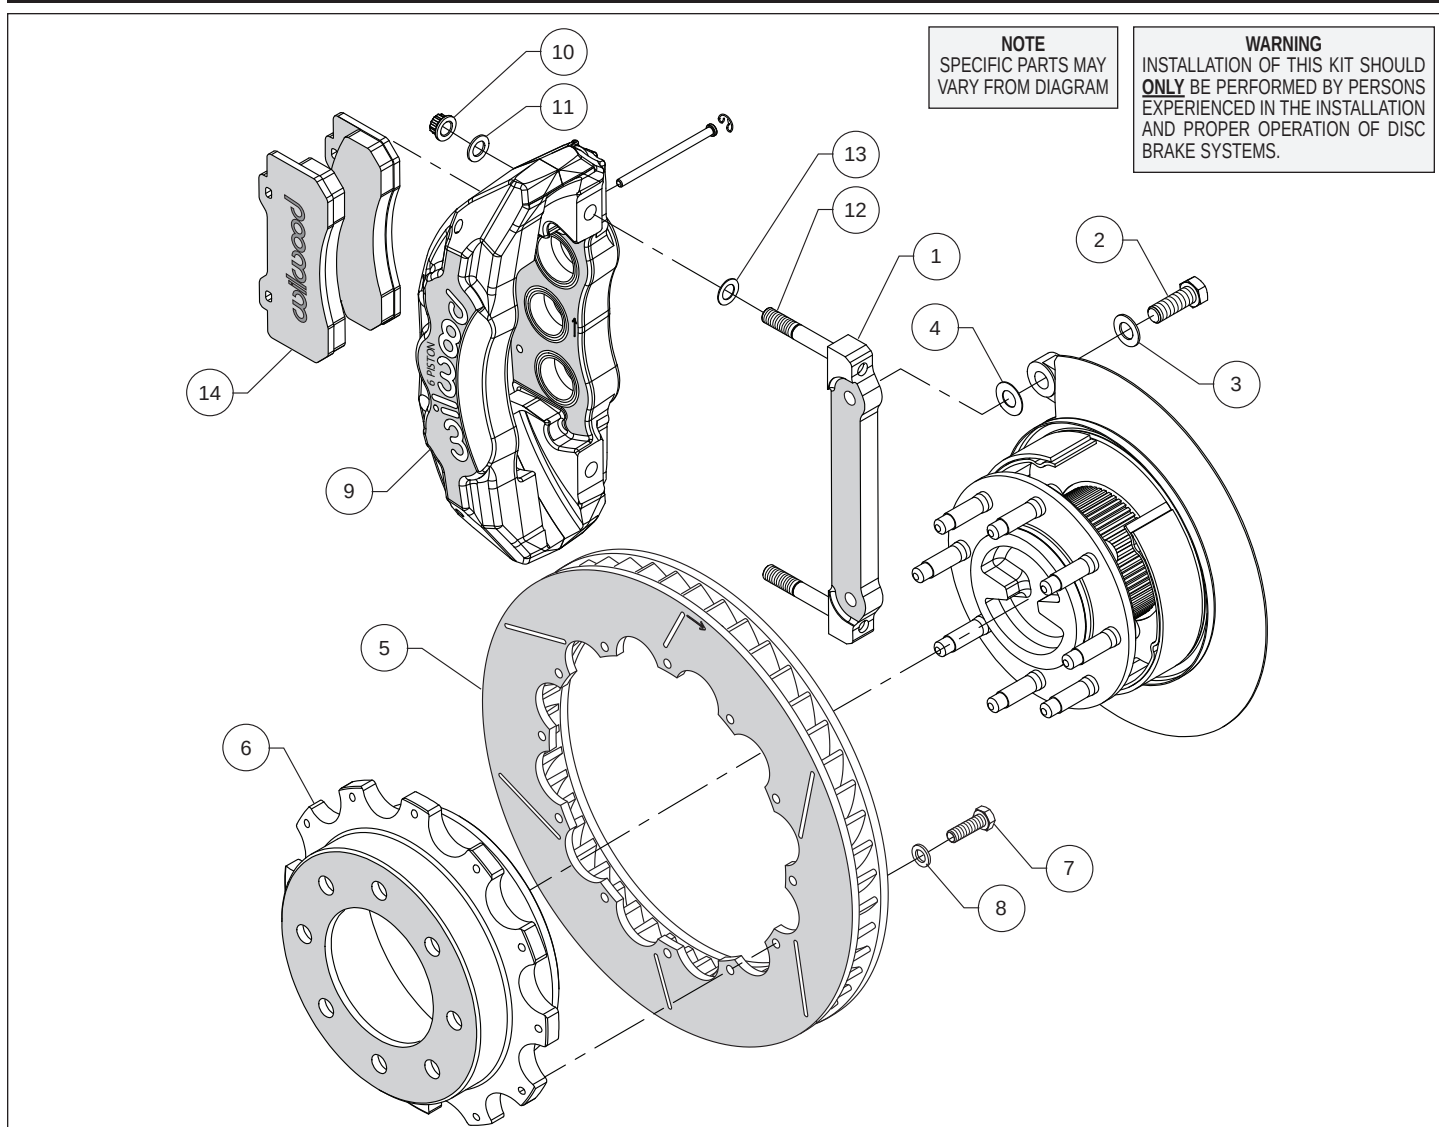
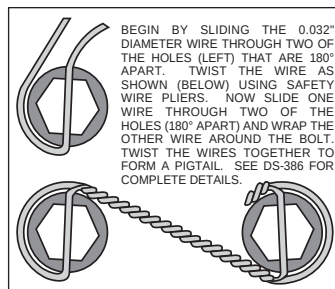

Figure 1. Typical Installation Configuration
Figure 3. Safety Wire Diagram
Assembly Instructions (numbers in parenthesis refer to the parts list and Figure 1 on the preceding pages):
- The caliper mount bracket (1) should initially be installed with clean, dry threads on the mounting bolts. Orient the bracket as shown in Figure 1 and Photo 1, and install using bolts (2) and washers (3). Initially place one .029 thick shim (4) on each bolt between the bracket and upright, Figure 1. Temporarily tighten the mounting bolts. **NOTE:** *The bracket must fit squarely against the mount bosses on the upright.* Inspect for interference from casting irregularities, machining ridges, burrs, etc. Later, after the caliper alignment has been checked, the mount bolts will be secured using red *Loctite*® 271.
- Orient the rotor (5) and the hat (6) as shown in Figure 1 and Photo 2. Attach rotor to hat using bolts (7) and washers (8). Using an alternating sequence, apply red *Loctite*® 271 to the threads, and torque to 25 ft-lbs. The bolts must be safety wired using standard 0.032 inch diameter stainless steel safety wire as shown in Figure 3. Please refer to Wilwood's data sheet DS-386 (available at www.wilwood.com/Pdf/DataSheets/ds386.pdf) for complete safety wire installation instructions.
- NOTE:** *This kit contains distinct right and left hand calipers that must be mounted in a specific direction, as described below.* Lubricate the caliper mounting studs (12) with lightweight oil. Initially place one .032" thick shim (13) on each stud as shown in Figure 1 and Photo 3. Mount the caliper (9) onto the bracket (1) using lock nuts (10) and washers (11), Figure 1. Ensure that the caliper is mounted so that the largest pistons are at the rotor exit end of the caliper, in relation to the direction of rotor rotation. Temporarily tighten the lock nuts and view the rotor through the top opening of the caliper. The rotor should be centered in the caliper, Photo 4. If not, adjust by adding or subtracting shims (4) between the bracket and the upright. Always use the same amount of shims on each of the two mounting bolts. Once the caliper alignment is correct, remove the bracket mounting bolts (2) one at a time, apply red *Loctite*® 271 to the threads, and torque to 77 ft-lb.